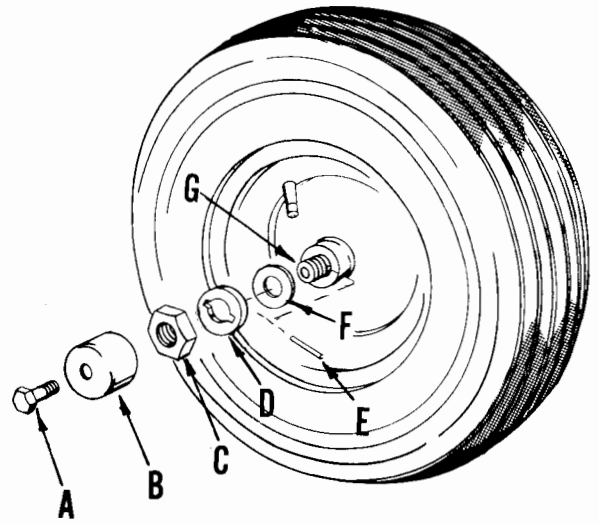

FIG. 26
4. Reverse procedure for reassembly, refer to Fig. 26.